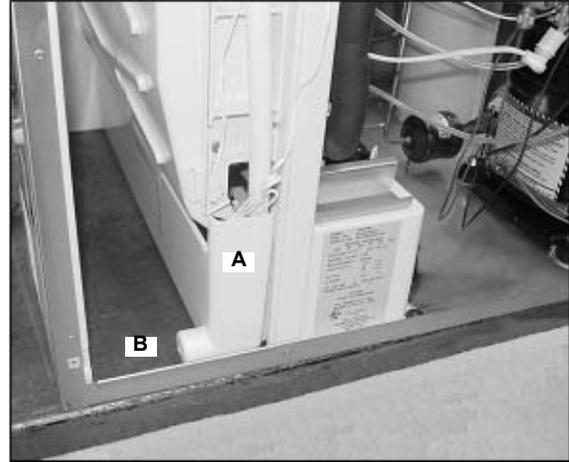

Figure 9.
6. Drain the evaporator water pan (A) by removing the drain cap (B) (Figure 9), behind the bottom metal evaporator support.